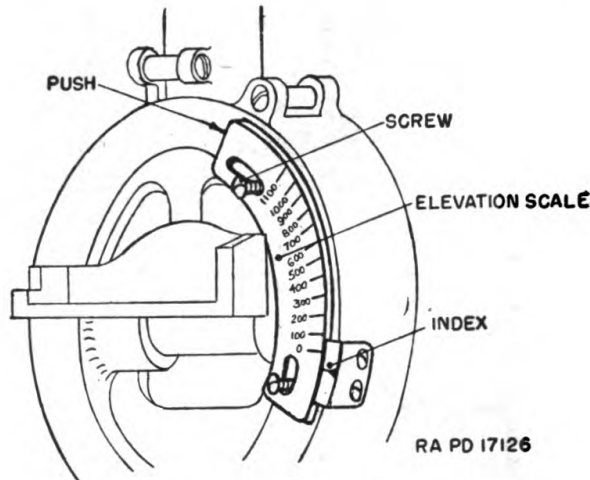

FIGURE 12.—Elevation scale adjustment.
(2) *Elevation scale* (fig. 12).—Adjustment is accomplished by loosening the two screws and shifting the scales until the desired indication is opposite the elevation scale index. Tighten the screws.